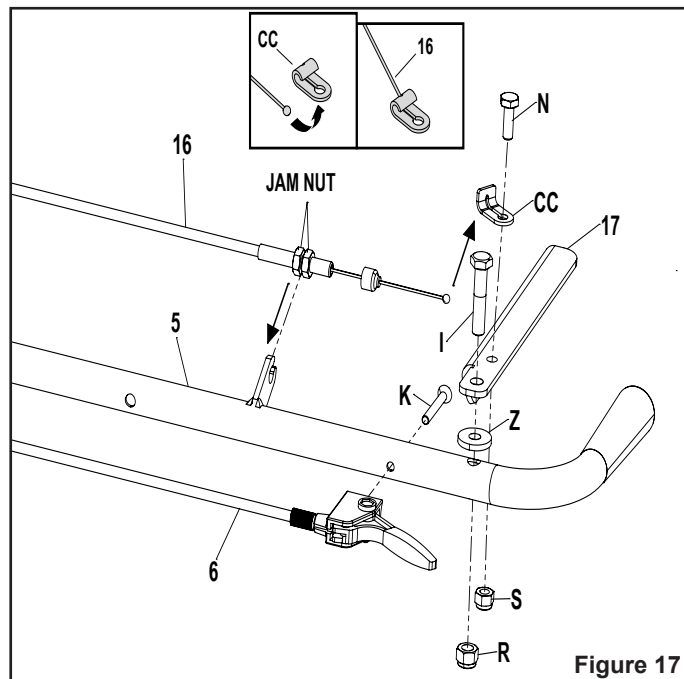

Figure 17
STEP 17: (SEE FIGURE 17)
- Install the lever (17) onto the lift handle tube (5) and secure it with a bolt (I), washer (Z), and nut (R).
- Insert the ball end of the control cable (16) (other end previously installed) into the bottom of the clevis lanyard fitting (CC) and place the cable into the groove as shown.
- Using a bolt (N) attach the clevis lanyard fitting (CC) to the lever and secure using nylock nut (S).
- Insert the control cable (16) into the tab on the lift handle tube (5). Tighten both jam nuts.
- Attach the trigger & lift cable assy (6) to the lift handle tube (5) with a screw (K). Tighten hardware.